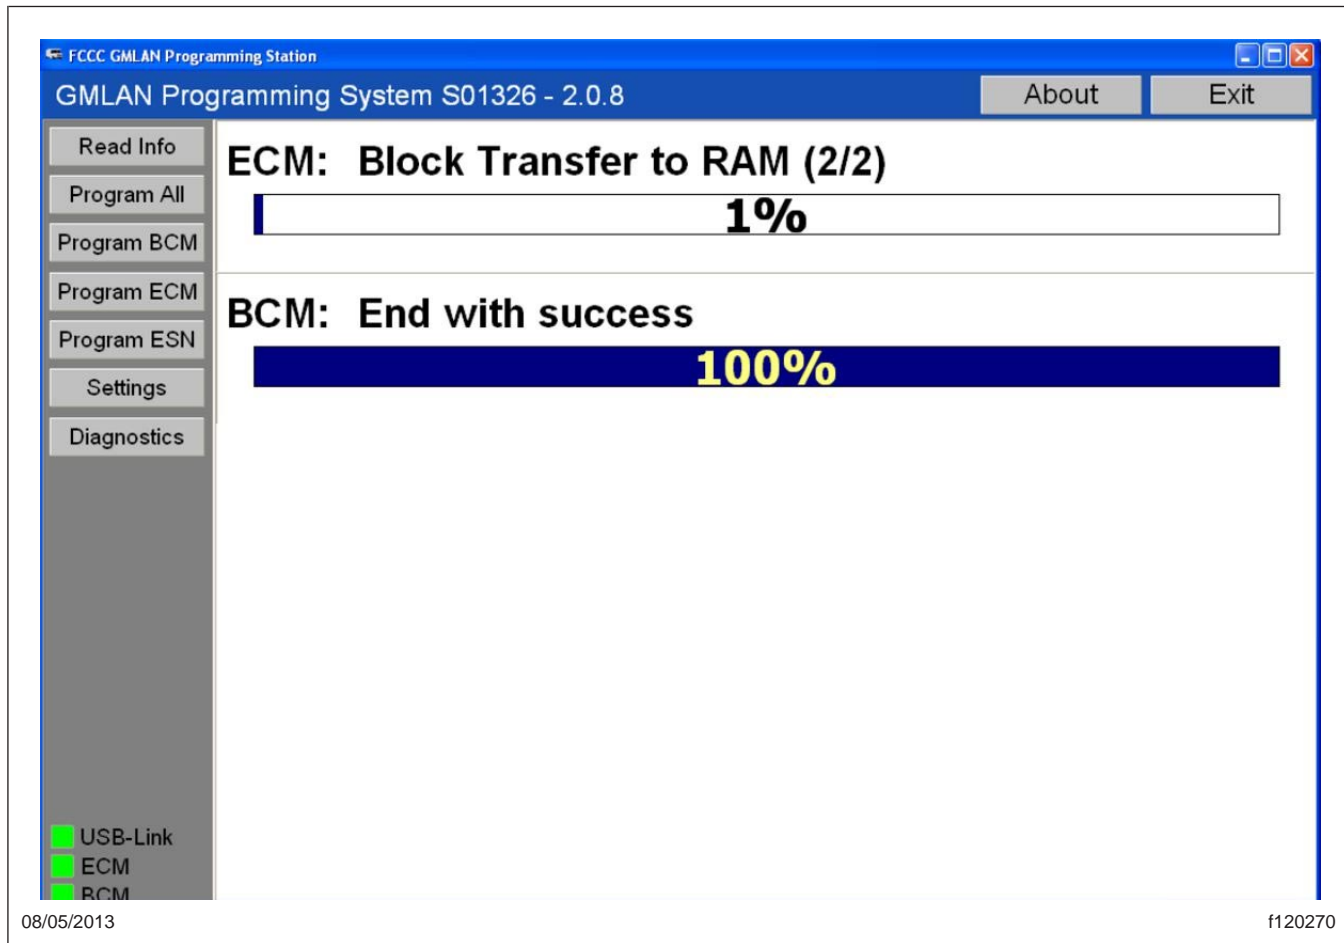

Fig. 5, Programming Transfer Display Screen
5. A graphic will display the progress of the programming transfer as shown in Fig. 5.